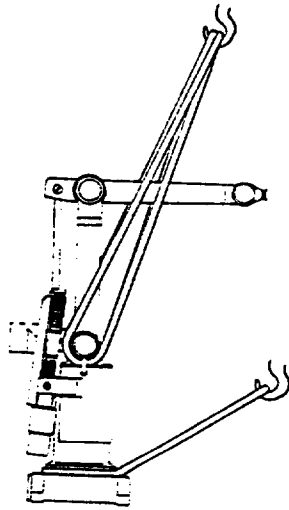

Figure 2-3
3. Raise the body slowly with the lower strap only to start the turning of the robot (see Figure 2-3).